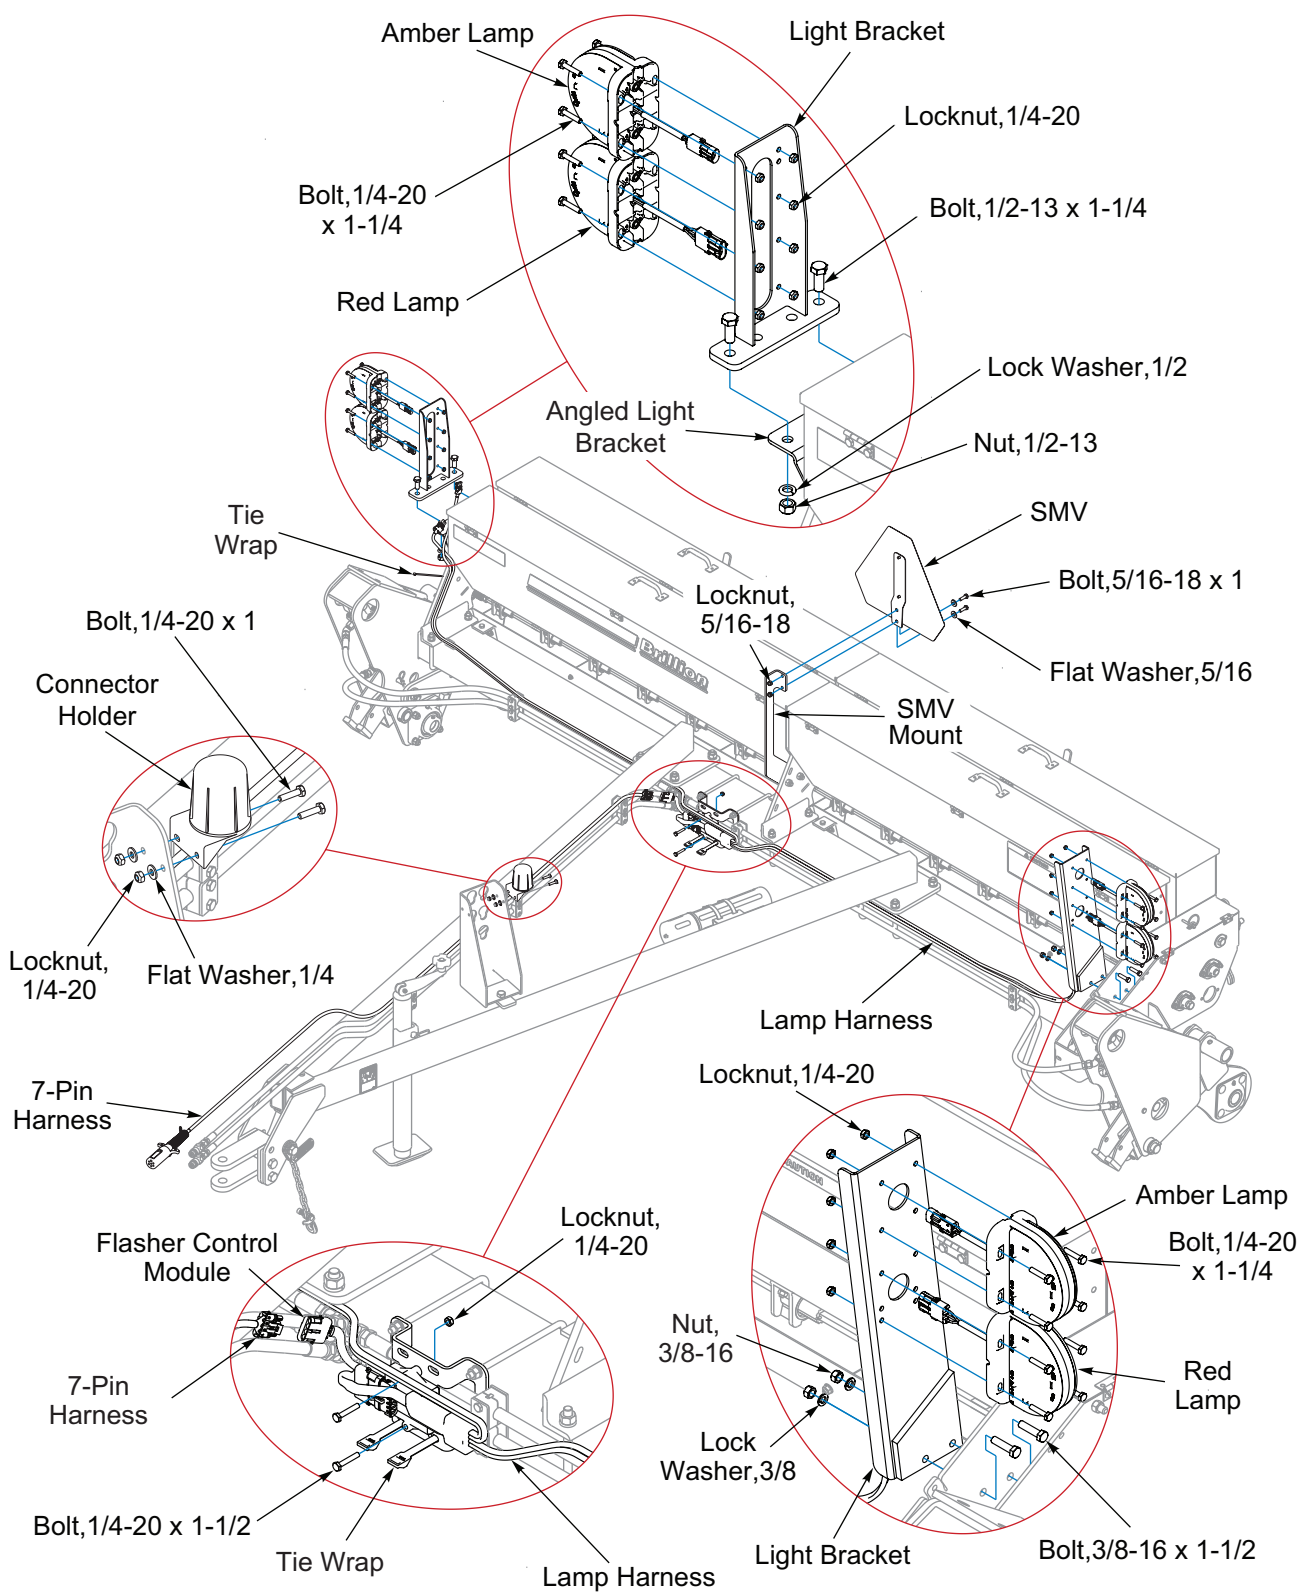

Figure 2-22: Warning Lamp Installation, 8FT and 10FT (Before 08/2025)
1. Attach longer Light Bracket to the Transmission located on the left side of the Seeder, with 3/8-16 x 1-1/2 Bolts, Lock Washers, and Nuts. **See Figure 2-22.**